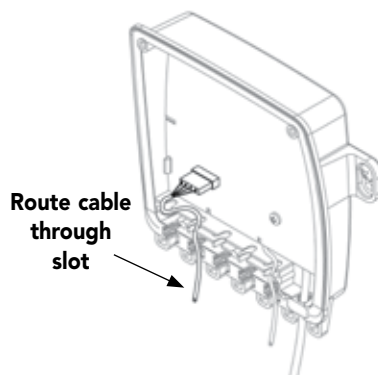

Figure 18
3. Route the control cable through an empty slot in the lower portion of the control box's housing (**Figure 18**).